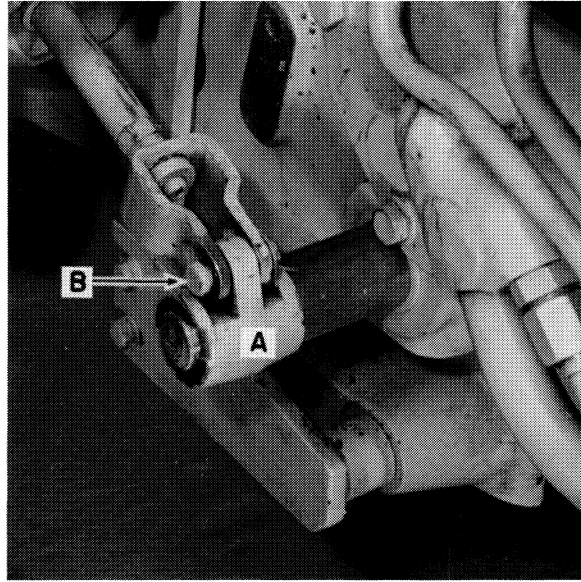

FIGURE 11-69
27. Install key and clamp lever, A, Figure 11-69, positioning it 1/16" from the end of the shaft. Tighten the clamp bolt to 50 ft. lbs.